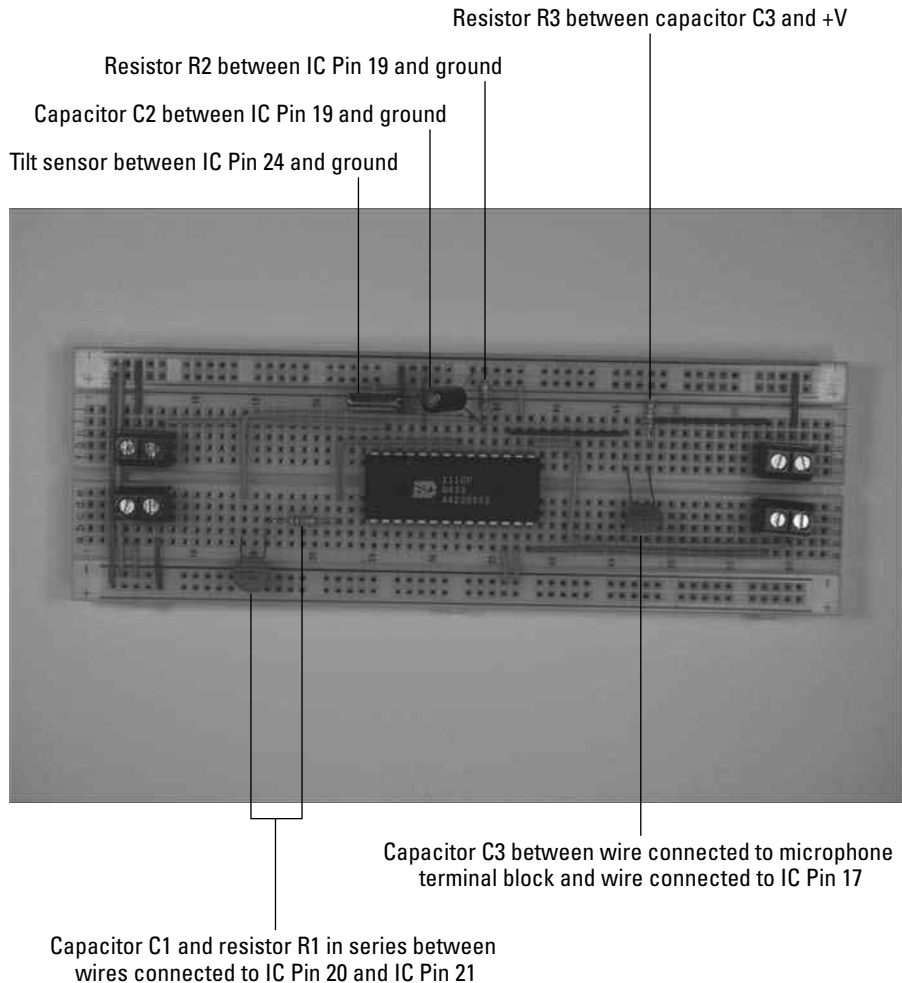

Figure 14-8:
5. Insert discrete components and the tilt sensor in the breadboard, as shown in Figure 14-8.